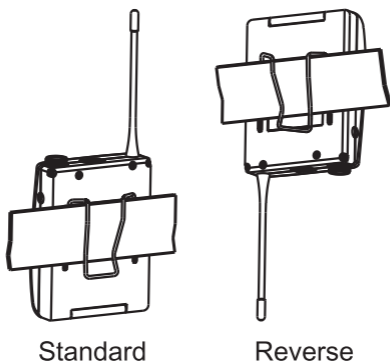

Fig.2
- ③ Transmitting Antenna
- ④ Housing
- ⑤ LCD Panel
- ⑥ SET button
- ⑦ MODE button
- ⑧ Power Switch
- ⑨ ACT Sync Window
- ⑩ Battery Compartment
- ⑪ Battery Cover
- ⑫ Remote control mute connector
- ⑬ Reversible Belt Clip, Fig. 2
- ⑭ Battery Charging Contact. (Rechargeable)
- ⑮ Battery protection circuit reset button (ACT-70TC/52TC/32TC Rechargeable)